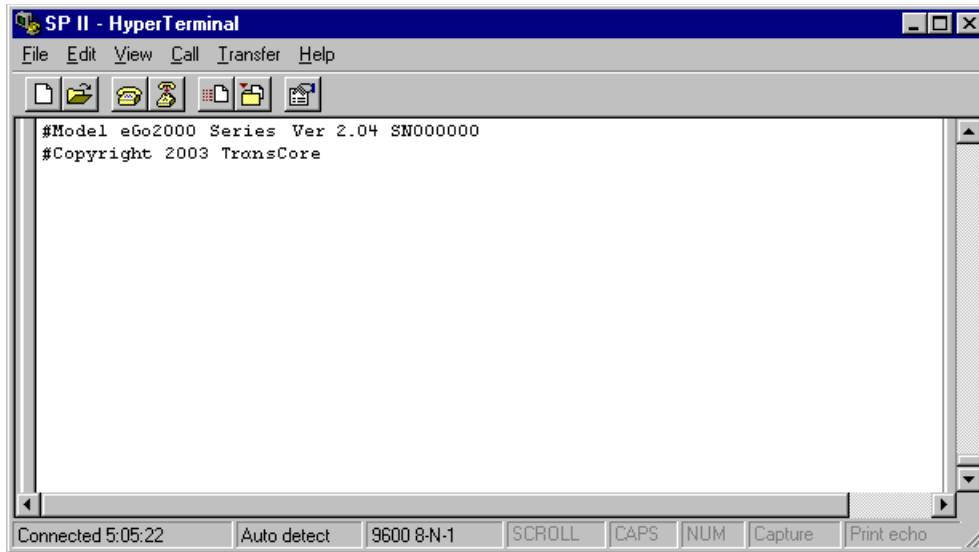

Figure 28 Sign-on Message
2. Cycle the power on the MPRX. Upon startup, the MPRX transmits a sign-on message, displayed on the terminal emulation screen as shown in Figure 28, or a boot ROM failure message.